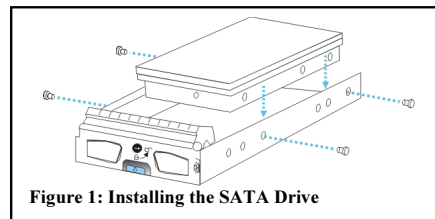

Figure 1: Installing the SATA Drive
2. Adjust the drive's location until the mounting holes in the drive canister are aligned with those on the hard drive. Secure the drive with four (4) of the supplied 6/32 flat-head screws. (See *Figure 1*)